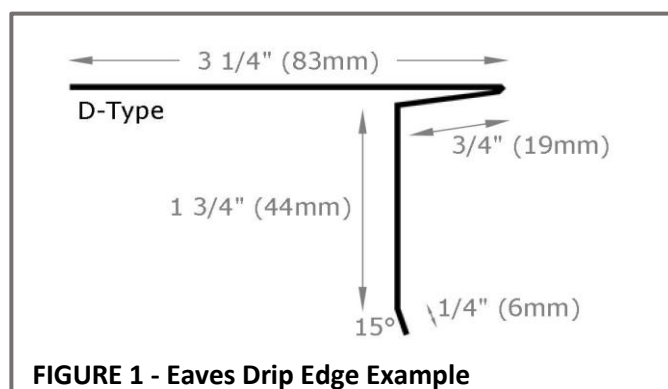

FIGURE 1 - Eaves Drip Edge Example
- **EAVES** - F-WAVE recommends a **D-Type drip edge** at the eaves, extending a minimum of **2" (51mm)** back from the roof edge; bending downwards over the fascia and directing water away from the fascia board. See example in **Figure 1**. Apply underlayment over drip edge metal at eaves.